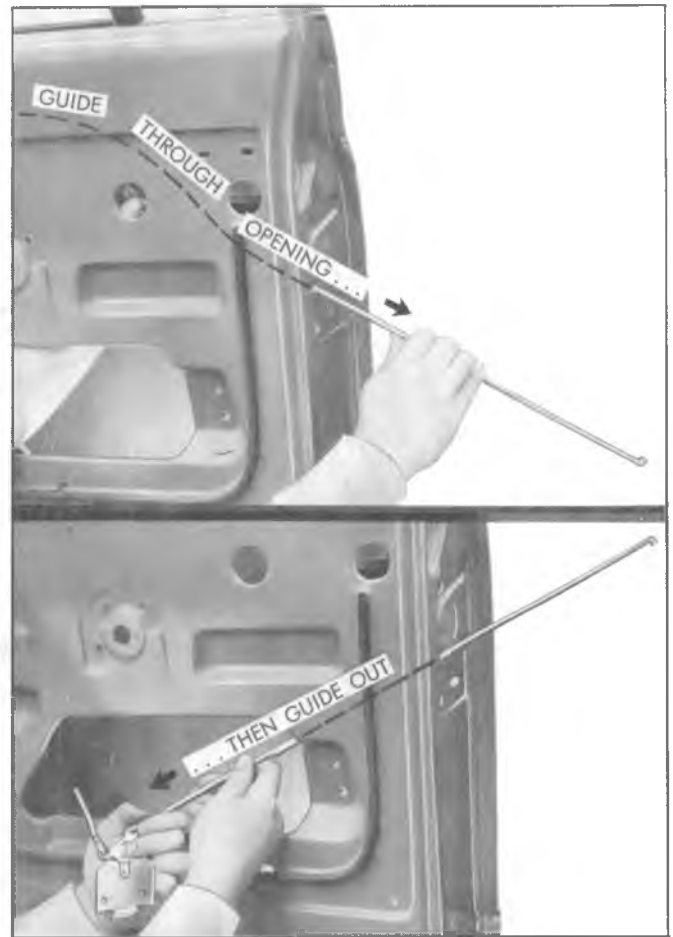

Fig. 42—Side Rear Door Front Remote Control & Rod Removal
7. Guide the attaching rod with the front remote control assembly through the lock hole at the rear of door - tilt upward to clear the regulator assembly and then back out the access hole. (See Figure 42.)